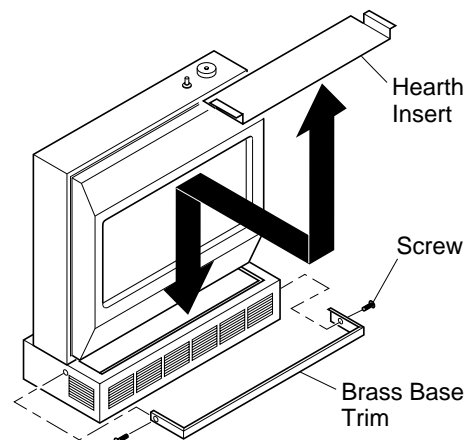

Figure 19- Placing Hearth Insert on Heater Base and Attaching Brass Base Trim
6. Place hearth insert in hearth base as shown in Figure 19.
8. Slide base trim on heater base. Attach brass trim to base with two brass screws included as shown in Figure 19.